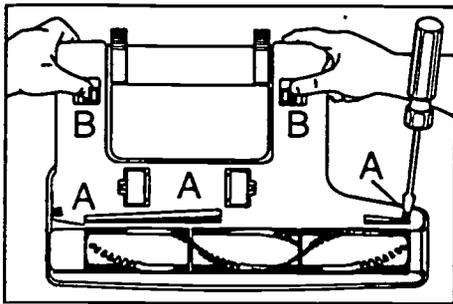

Figure 14
Lay unit flat with bottom up, brush roll facing towards you. With Phillips head screwdriver, remove 3 screws in front of base (A). Release 2 rear snaps (B). Remove broken or worn belt. Remove brush dowel by lifting up and out. (Figure 14)